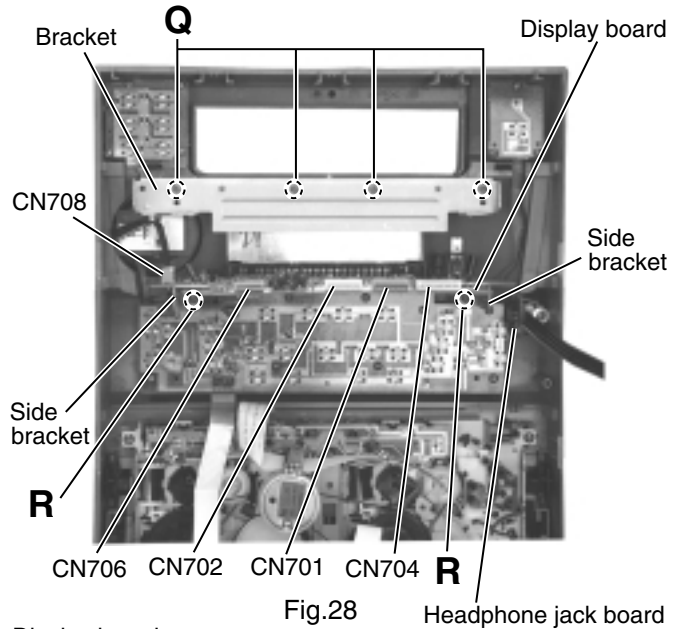

Fig.28
■ Removing the display board and the side brackets (See Fig.28 and 29)